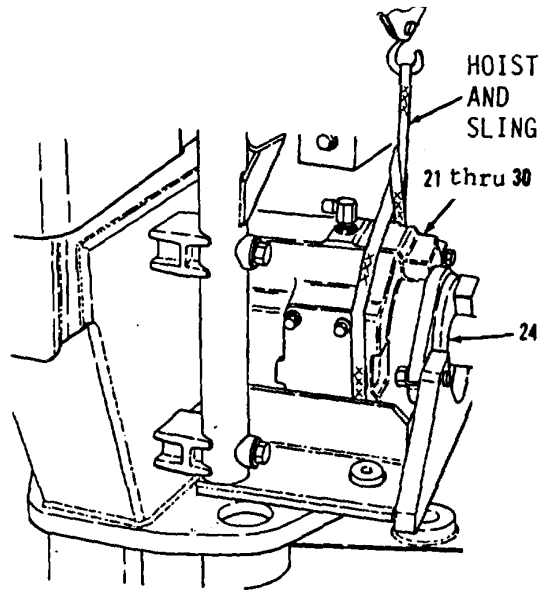

Figure 10-8.
12. Position pump assembly (24) on left side of pivot area. Slide items 21 thru 30 as an assembly (Figure 10-8) from underneath cab into a position where hoist and sling can be attached.